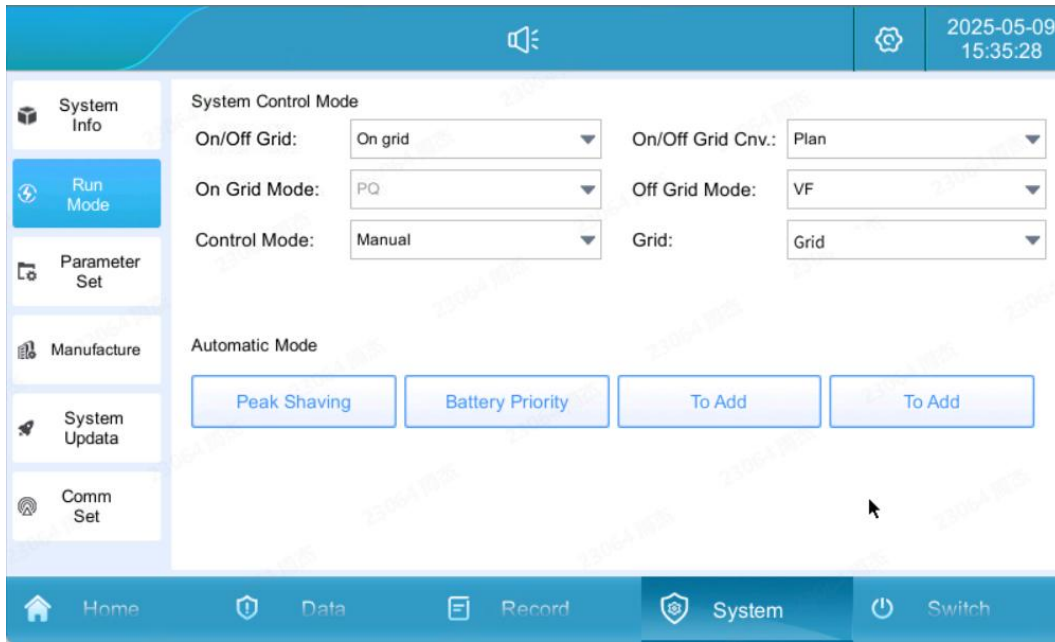

Figure 5-7 Grid-connected manual mode setting
- 2、Set the control mode to “Manual Mode” , set the corresponding active power, power factor, reactive power size in the “Parameter Set” page, and the machine will run according to the set value (positive value for discharging, negative value for charging). The power setting interface is shown in Figure 5.7.